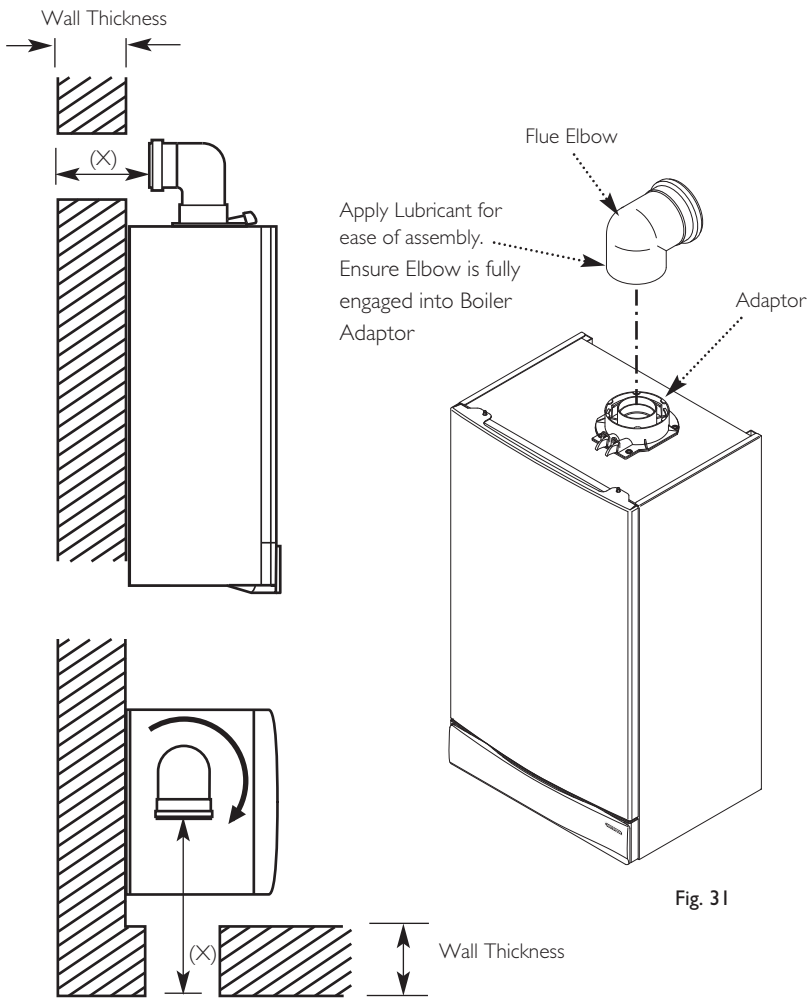

Fig. 31
2. Locate the flue elbow on the adaptor at the top of the boiler. Set the elbow to the required orientation (Fig. 31).